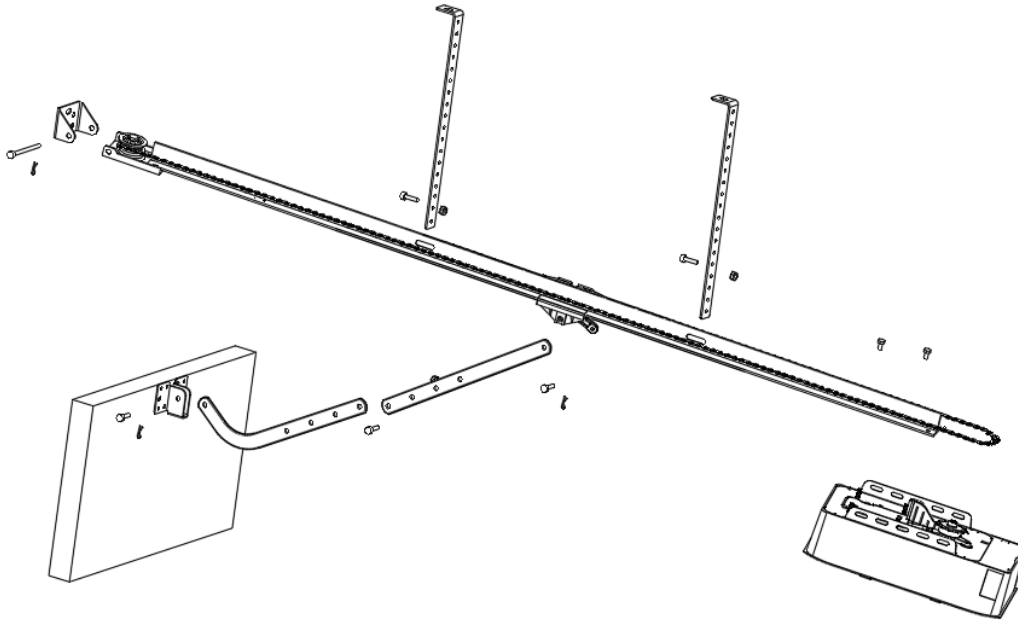
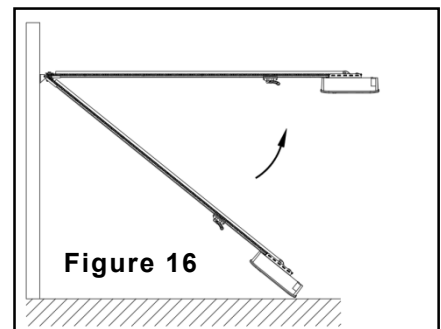

Figure 15
Figure 16
STEP1 (Fig.15)
STEP2 (Fig.15)
STEP3 (Fig.15, Fig.16)
STEP4 (Fig.15, Fig.17)